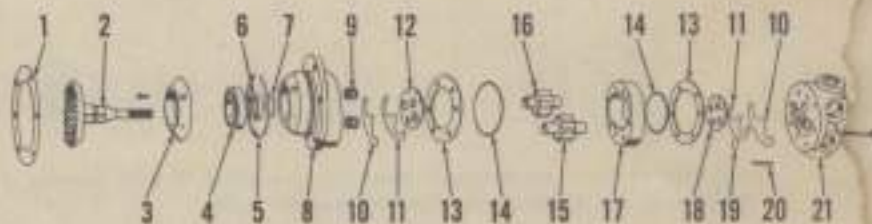

Fig. 178 — Exploded view of high volume hydraulic pump available on D-15 tractors. Unit is mounted and drives the same as belt pulley unit.
Shims (1—Fig. 178) are used to adjust backlash between pump gear (1) and drive pinion (8—Fig. 94) on the engine clutch shaft.
When reinstalling, first remove all shims (1—Fig. 178) and install "O" ring (5) on pump body (8). Hold pump squarely in torque housing with zero backlash on bevel gears and measure distance between pump mounting flange and torque housing.
**269. OVERHAUL.** To remove the pump drive shaft (2—Fig. 178), bearing (4) and/or seal (6); remove the three screws attaching bearing retainer (3) to pump body (8) and bump shaft (2) and bearing out of pump body. Remove snap ring (7) from shaft if bearing (4) is to be removed. Oil seal (6) can be removed from pump body.